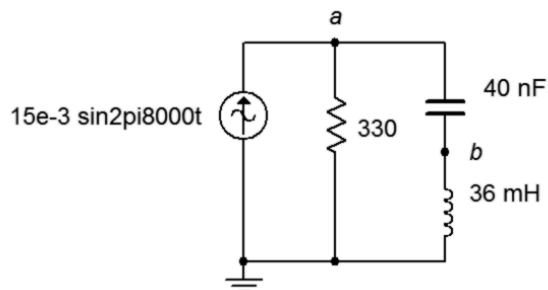

Figure 4.14
21. For the circuit of Figure 4.14, determine voltages v_a and v_b .
22. For the circuit of Figure 4.14, determine the middle and right branch currents and draw a phasor diagram of three circuit currents.